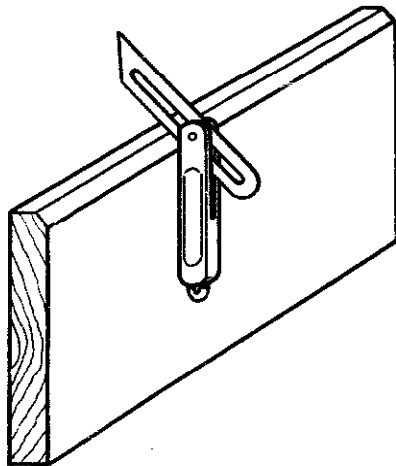
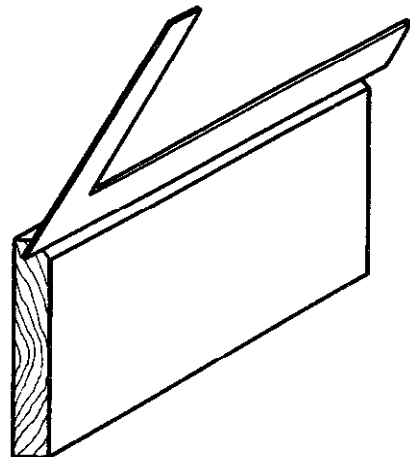

Fig. 8-43 Testing angle
Fig. 8-44 Testing straightness
- d. Check the angle of the finished chamfer with a sliding T bevel set at the correct angle. See figure 8-43. Also check the straightness as shown in figure 8-44.